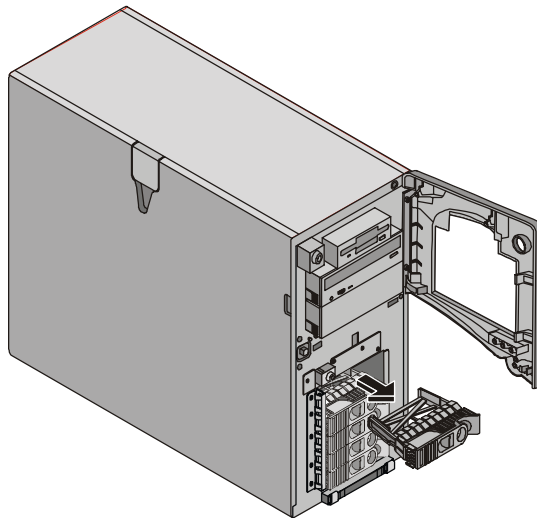

Figure 3-11. Removing Filler Panel
- b. Using your finger, pull the filler panel straight out. See Figure 3-11.